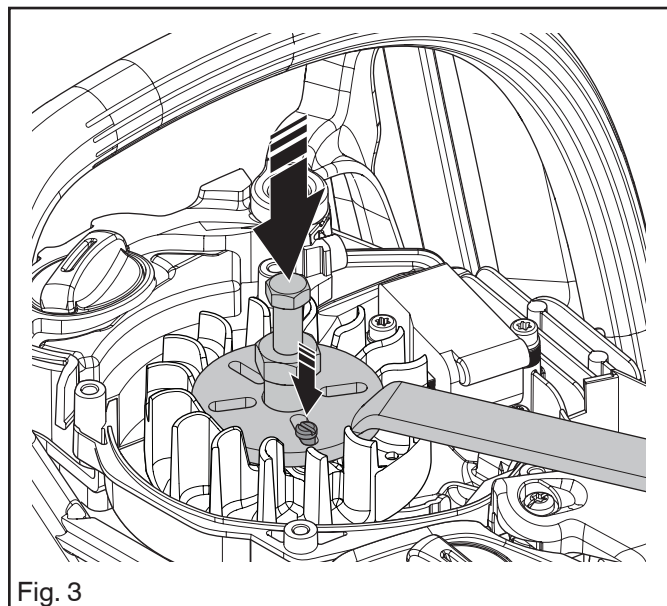

Fig. 3
7. A special tool (502 51 49-02)from Husqvarna is required to dismantle and assemble the flywheel. Center the tool on the crankshaft. Select the appropriate screw, supplied with the tool, and fit the screws in the holes for the start hooks. See Figure 3.